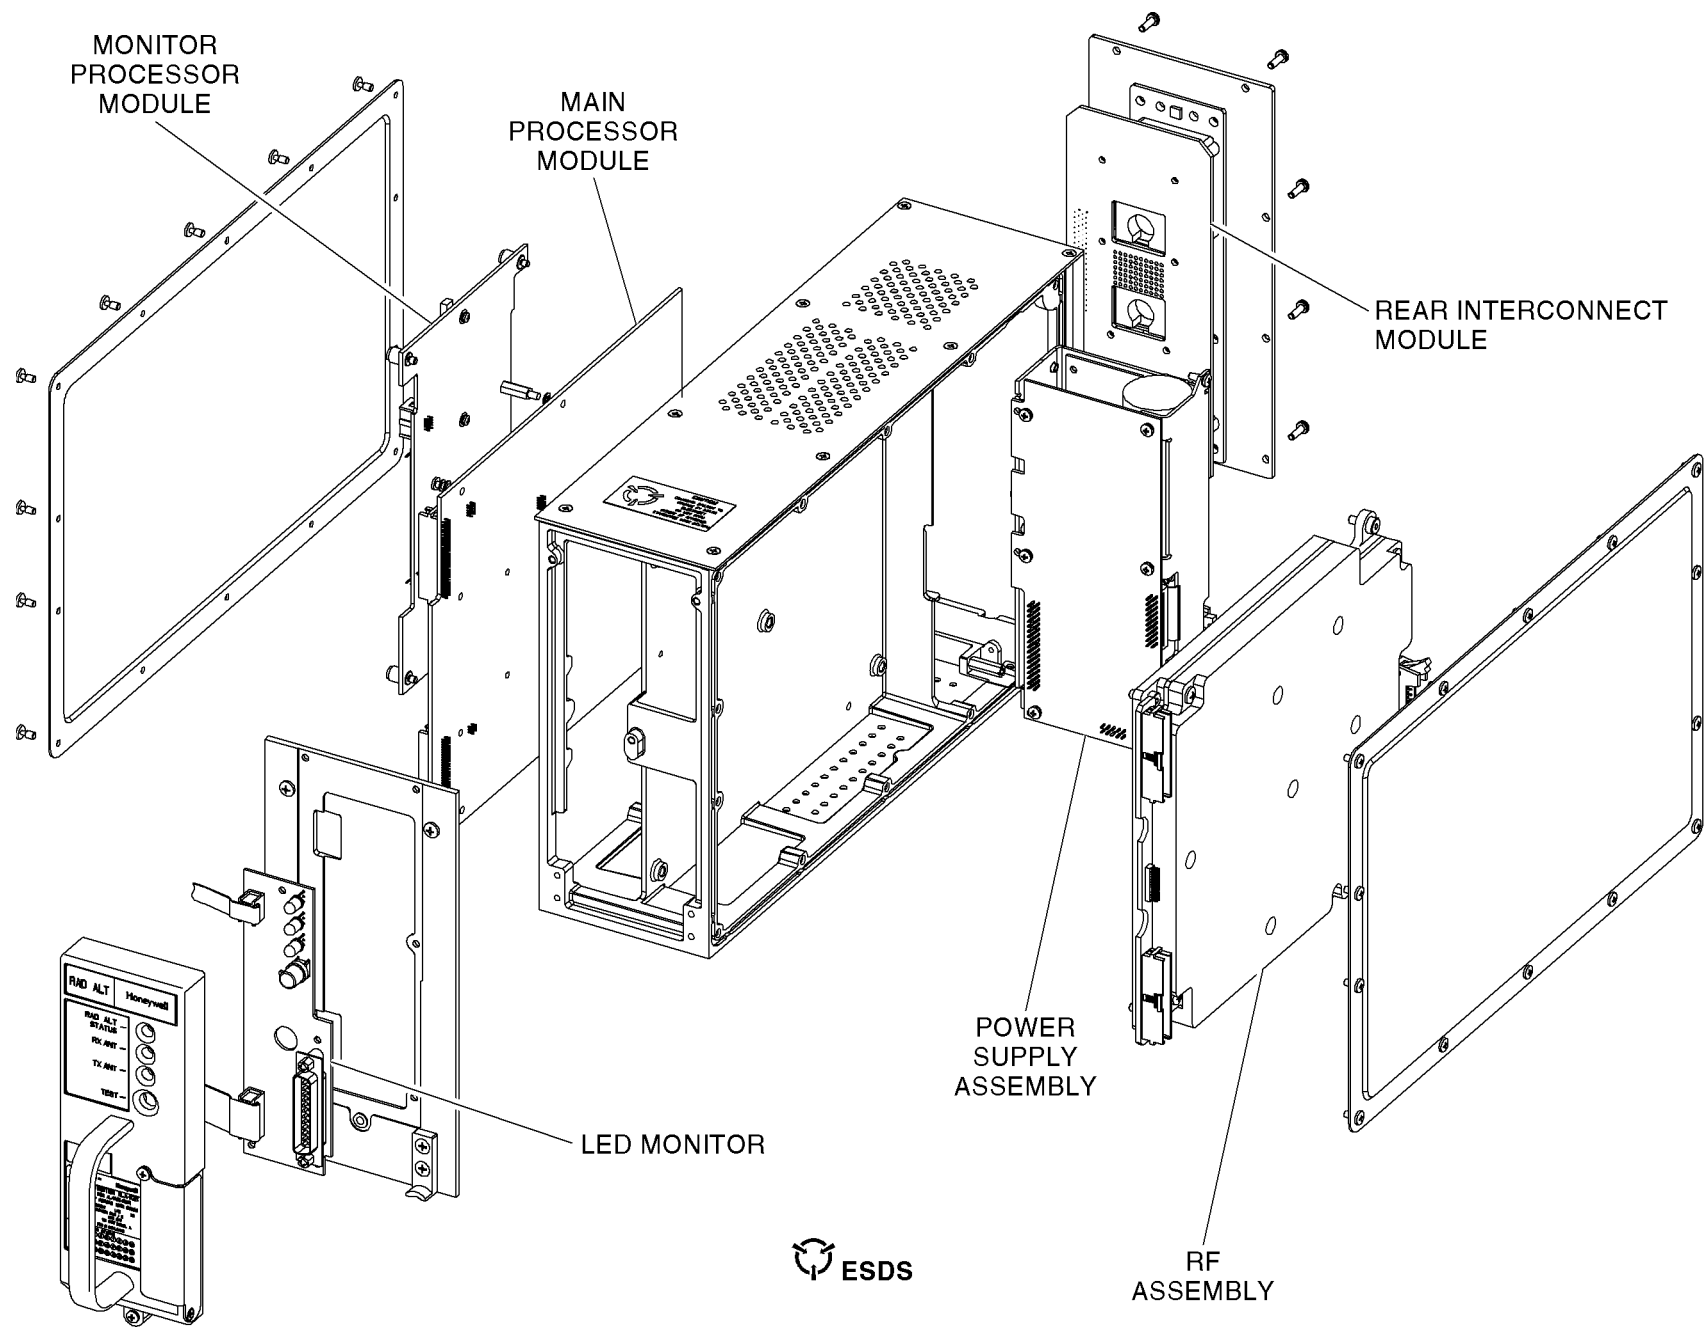

Figure 2. (Sheet 1 of 1) Module and Assembly Location (GRAPHIC 34-42-37-99B-803-A01)
- (1) The ALA-52B is contained in a standard ARINC Characteristic 600, 3-MCU case with side panels. Electrical connection to the aircraft wiring is made through an ARINC 600, series number one, multiple-section connector centered vertically.
- (2) Table 5 lists all modules and assemblies in the unit. Figure 2 (GRAPHIC 34-42-37-99B-803-A01) shows the location of the modules and assemblies.